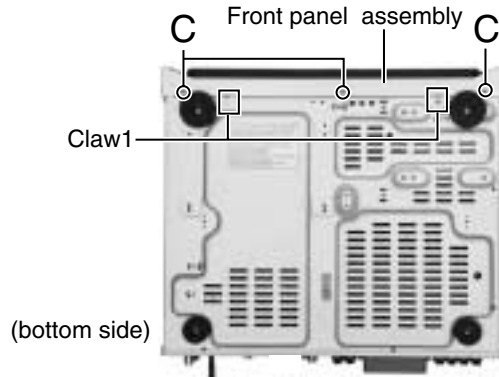

Fig.2A
■ Removing the front panel assembly (See Fig.2A, 2B and 3)